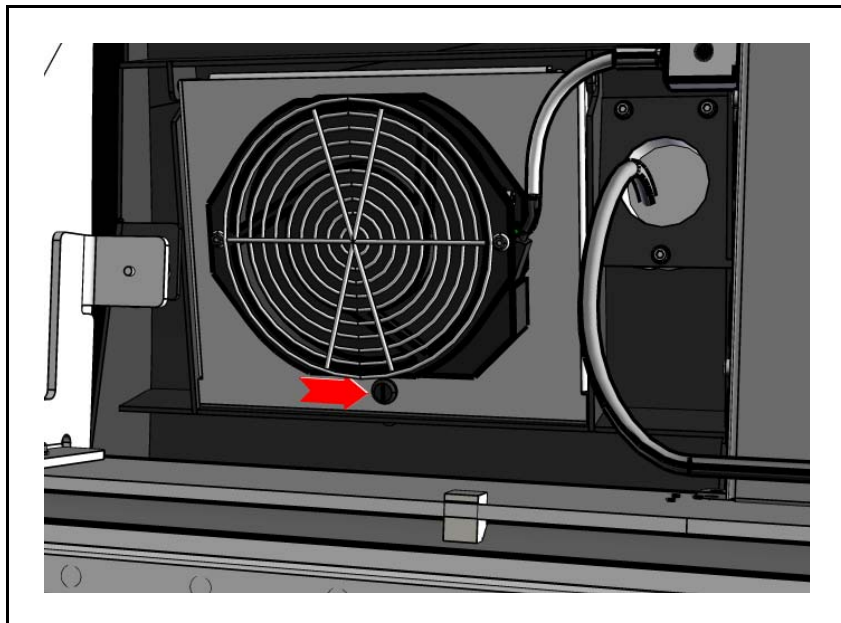

Figure 16-22. Fan assembly.
3. Use a large slotted screwdriver to turn the black plastic screw holding the fan assembly in place (see Figure 16-22).